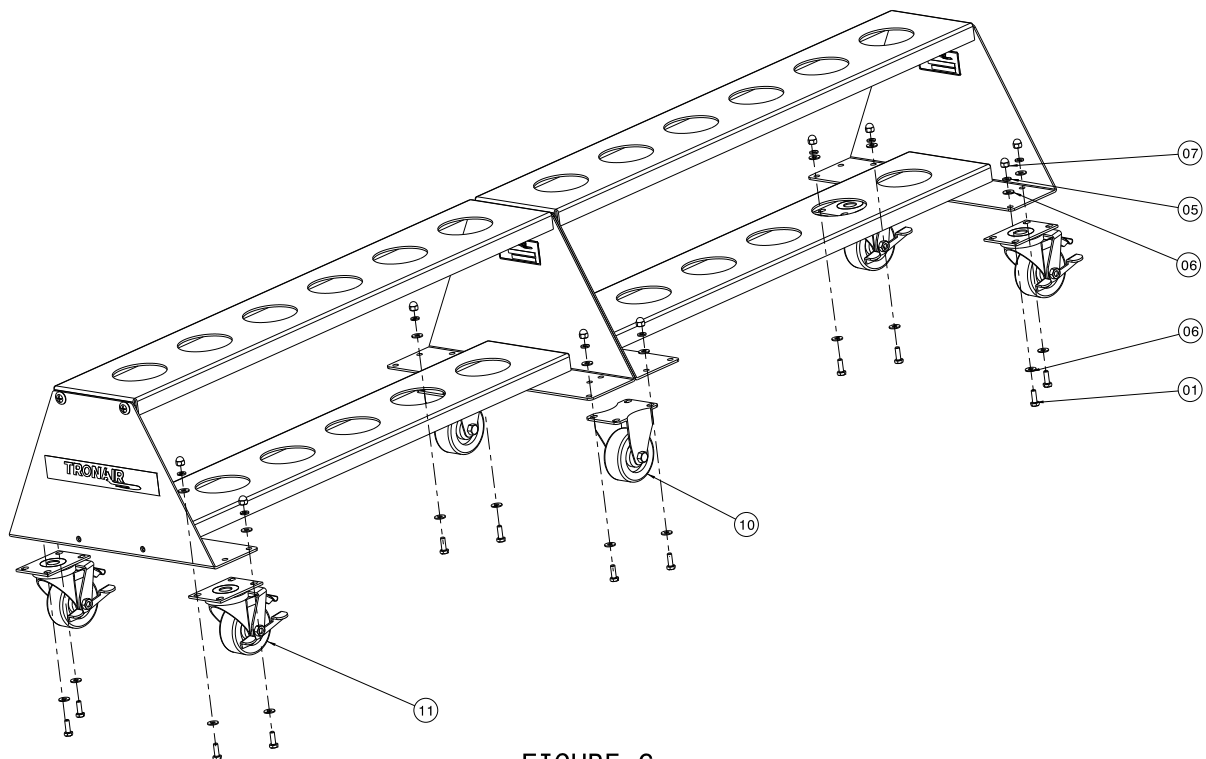

FIGURE 6
Using the socket wrench and the box end wrench, assemble items 10 and 11 using items 1, 5, 6, and 7 as shown in Figure 6.